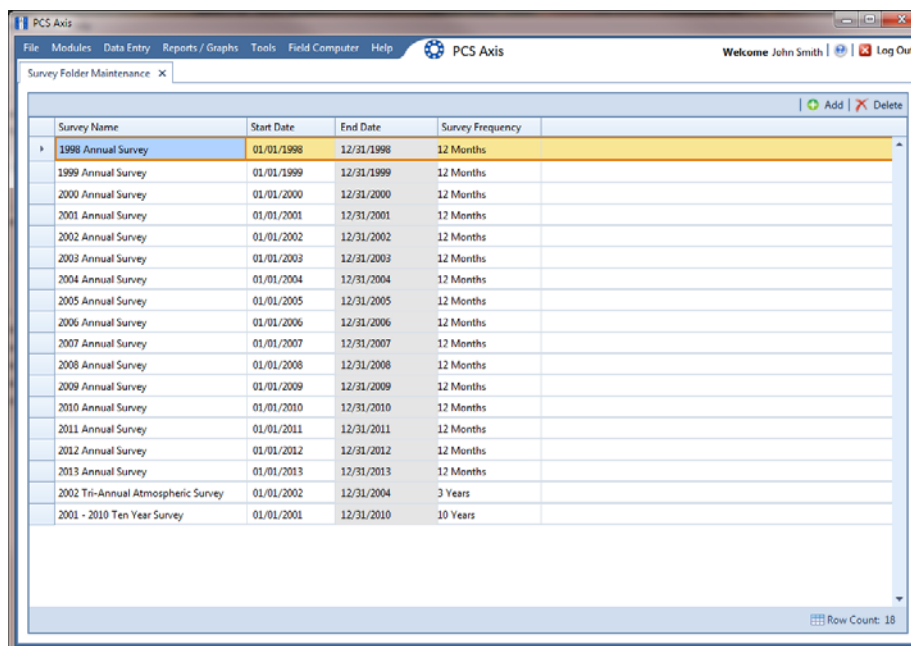

Figure 5-1. Survey Folder Maintenance
Names of facility survey folders typically follow regulatory requirements for surveying pipeline segments and facilities. For example, when you create an annual survey folder labeled *2012 Annual Survey*, you can then assign inspection readings to the facility survey folder throughout the year as they are completed. Names of facility survey folders are editable allowing you to name a survey folder using a naming convention that best suits your business needs. Examples of typical survey folder names include *2012 Feb Monthly Survey* and *2001-2010 Ten Year Survey* (Figure 5-1, page 134).
- 1 Click **Data Entry > Survey Folder Maintenance** to open the *Survey Folder Maintenance* window (Figure 5-1).
- 1 Click **Data Entry > Survey Folder Maintenance** to open the *Survey Folder Maintenance* window (Figure 5-1, page 134).